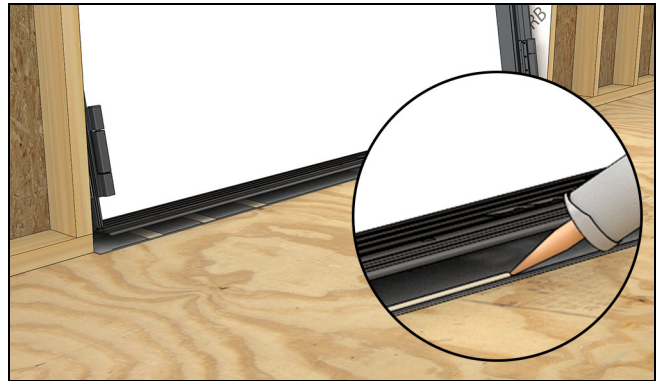
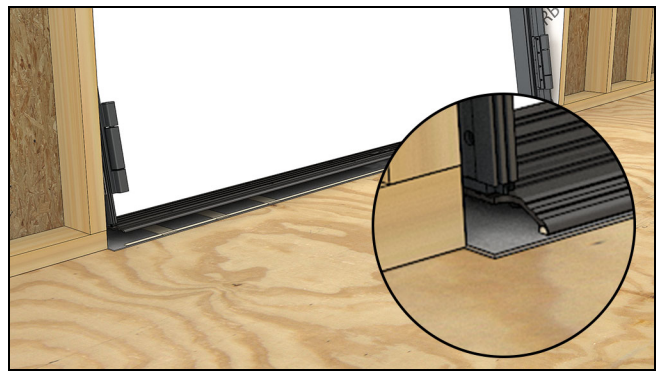

Figure 31
Figure 32
3. Tip the sill out and apply a bead of sealant on the exterior side of the line you just drew. Then tip the frame back into place. See Figure 31 and Figure 32.